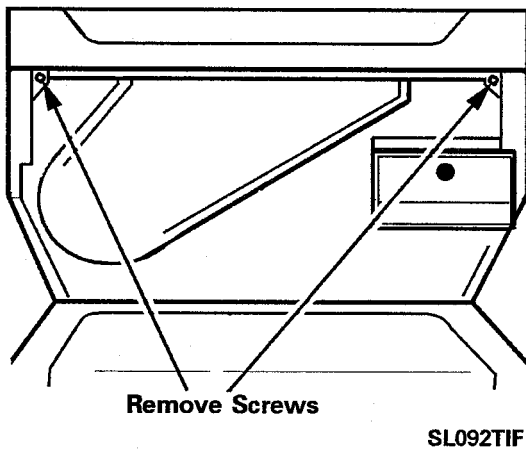

Figure 2-73
3. Remove two T20 H screws secured into lower flange of the upper front panel, *see Figure 2-73.*